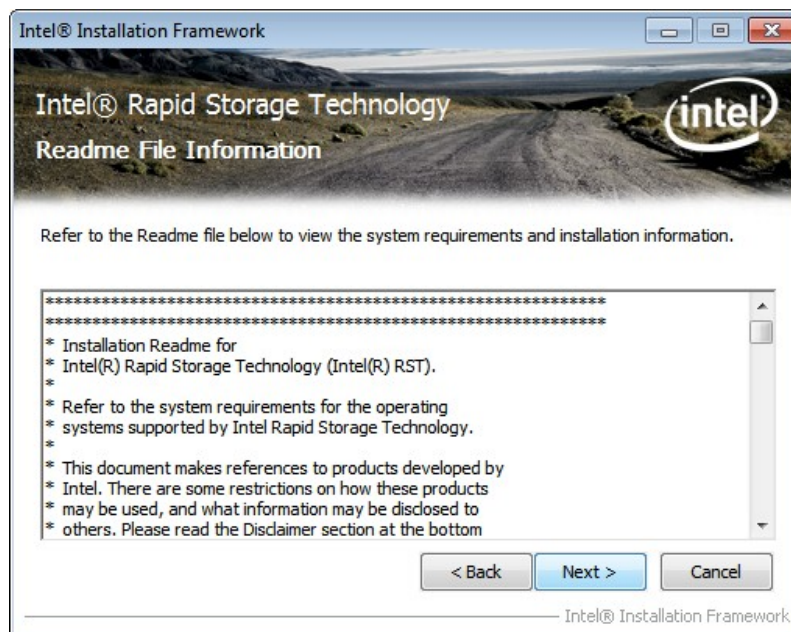

Figure 6-25: SATA RAID Driver Read Me File
Step 9: The **Read Me** file in Figure 6-25 appears.